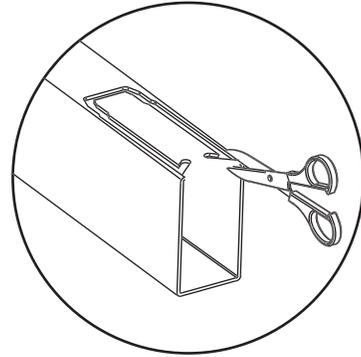

Figure 1
- For Style A gates, snip off excess material on the upright (Figure 1). Install the assembled center portion into the gate uprights.